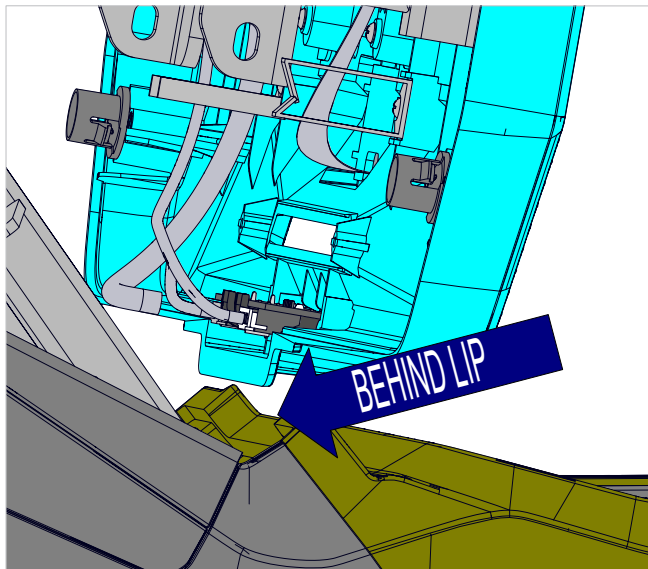

Fig. 4
4. Place the front of the console against the console weldment, angled forward. Make sure the bottom plastic of the console is below the wireless phone charger lip. (See Fig. 4)